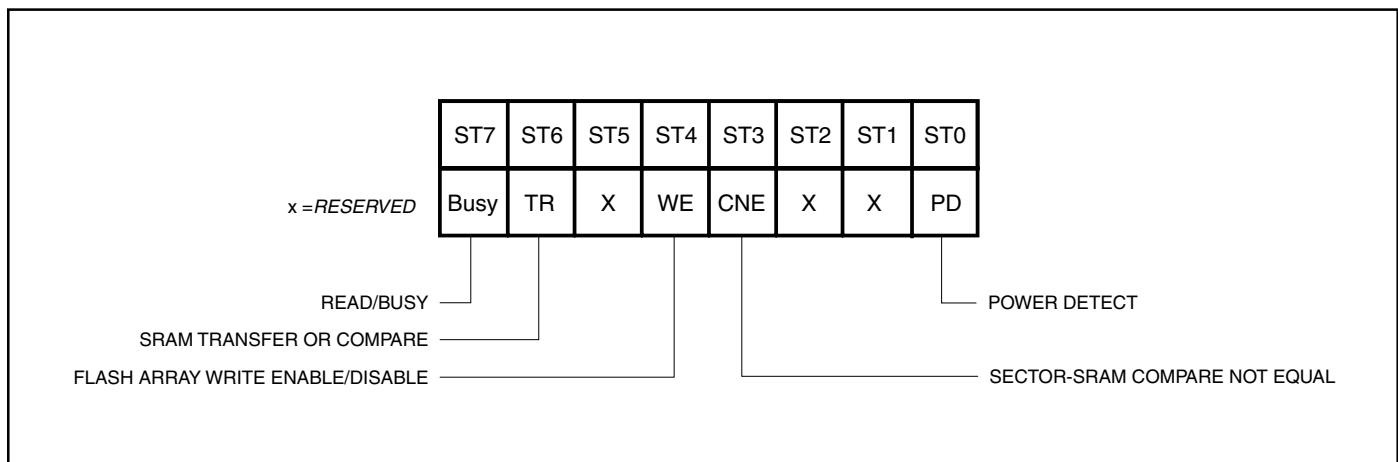

Figure 8. Status Register Bit Locations
The status register provides status of the Flash array's Ready/Busy condition (R/B), transfers between the SRAM and program buffer (TX), Write-Enable/Disable (WE), and Compare Not Equal (CNE). The register can be read using the Read Status Register command (Figure 8).